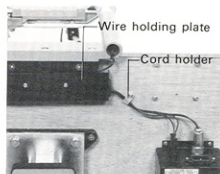

Fig. 14
Furthermore, pass the cord through the cord holder④ fitted to the lower face of table and fix it (See Fig. 14)